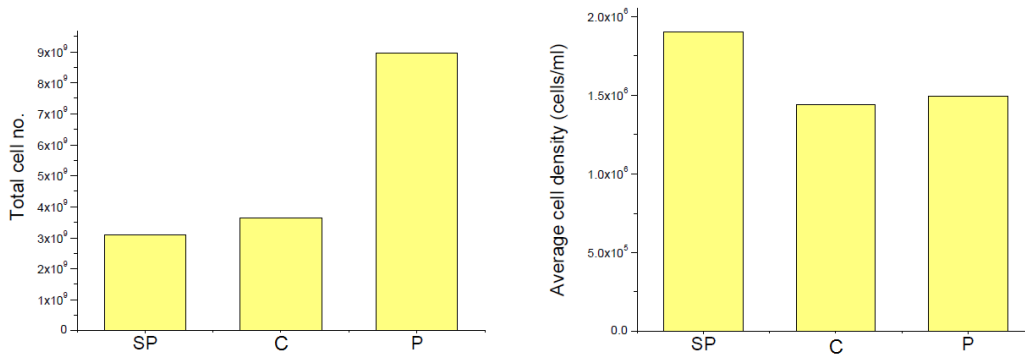
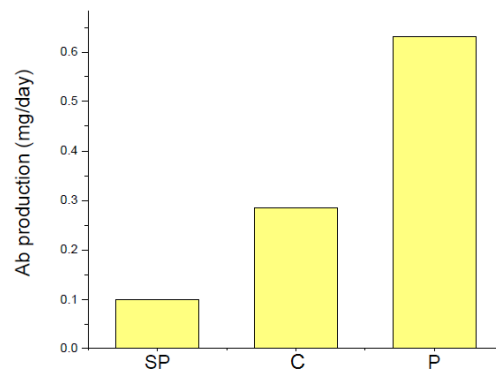
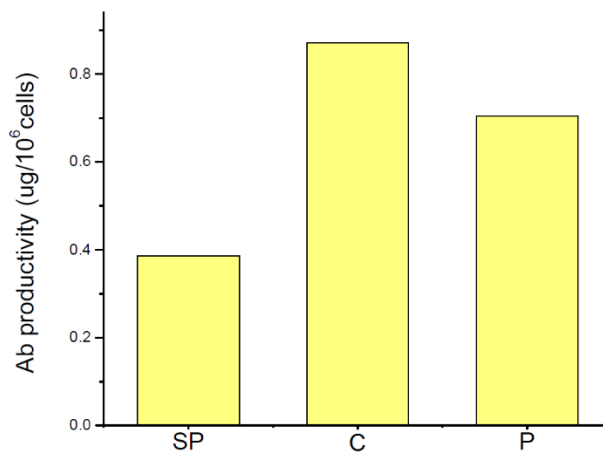
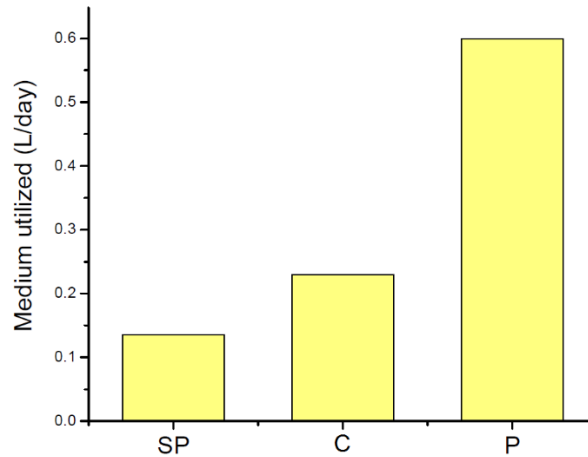

Figure 1. Cell Growth: (A) Total cells, (B) Cell density
Figure 3. MAb production and productivity in different culture systems
Figure 4. Antibody productivity per million cells
Figure 5. Medium Consumption Rate (L/day)
As shown in figure 1, total cell number in CelCradle-500P system was the highest among the other groups (approximately  $8.96 \times 10^9$ / CelCradle-500P) after 10 days cultivation. CelCradle-500 system (about  $3.64 \times 10^9$ / CelCradle-500), and spinner flask got similar cell density ( $3.09 \times 10^9$ ) after 12 days cultivation. However, if we look into figure 1(A), it was found that that CelCradle-500 and -500P shows similar average cell density. It indicates that sufficient supply of cultural medium in CelCradle-500P can reach higher cell mass within similar culture days, but it does not alter the final cell density under medium volume basis.
Figure 3 (A) and (B) shows total antibody yield and productivity per day of spinner flask (SP), CelCradle-500 (B), and CelCradle-500P (P) system respectively. The total yield of monoclonal antibody is P > C > SP (figure 3(A)). This suggested that the antibody production depends on the type of culture systems and consumed culture medium (table 2). Although the cultivation time of these 3 systems is different from each other, the antibody productivity per day still keeps the same trend (P > C > SP).
Figure 4 shows antibody productivity per  $10^6$  cells. Compare with B and P system, although total accumulated antibody of P is higher than B (figure 3(A)), the antibody productivity/ $10^6$  cells of P is slightly lower than B. Compare figure 4 with figure 1 (A): although total cell number in P is approximately 2.5 folds higher than B, the antibody productivity/ $10^6$  cells of P is slightly lower than B.
Figure 5 shows medium consumption rate (L/day) of OKT 3 cells. The medium consumption rate of these 3 systems also shows similar pattern ( $P > C > SP$ ) to total accumulated antibody (figure 3(A)) and antibody productivity/day (figure 3(B)). Combine figure 3 and figure 5 for comparison, it revealed that more culture medium consumed, more cells and antibody was produced. It indicates that antibody production of OKT3 needs good nutrient supply.